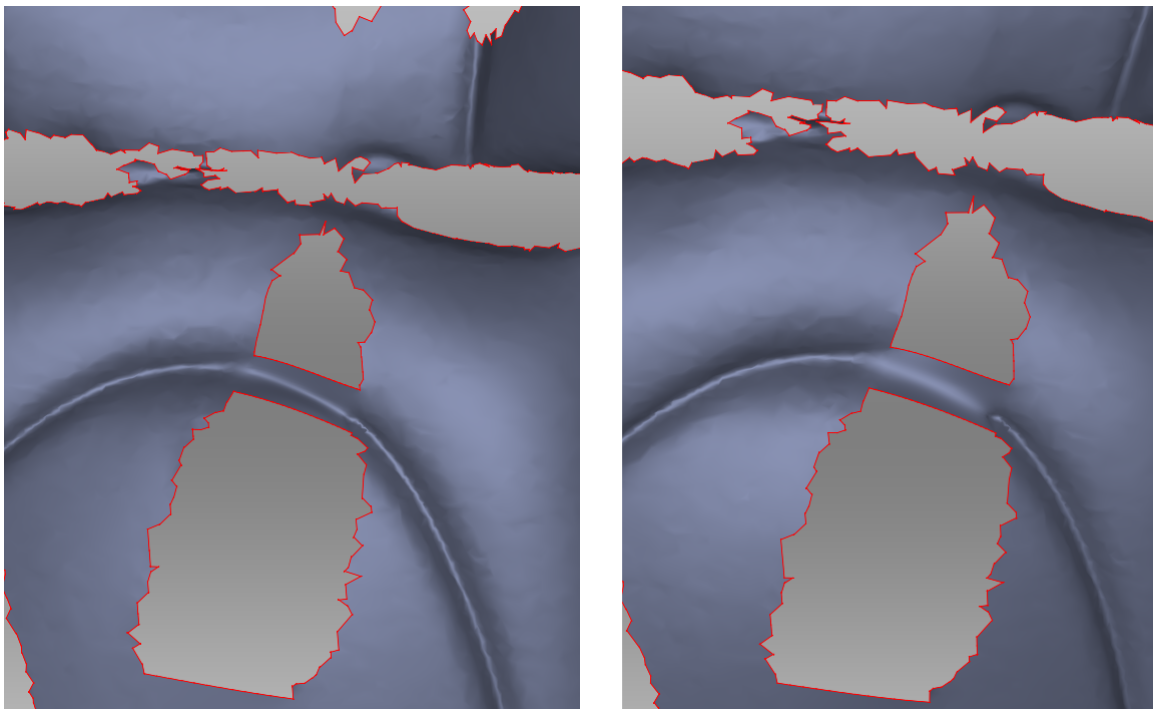

Figure 161: Small smoothness values on left and maximum on right.
- Use small or medium values of the *Bridge smoothness* slider (Figure 161).